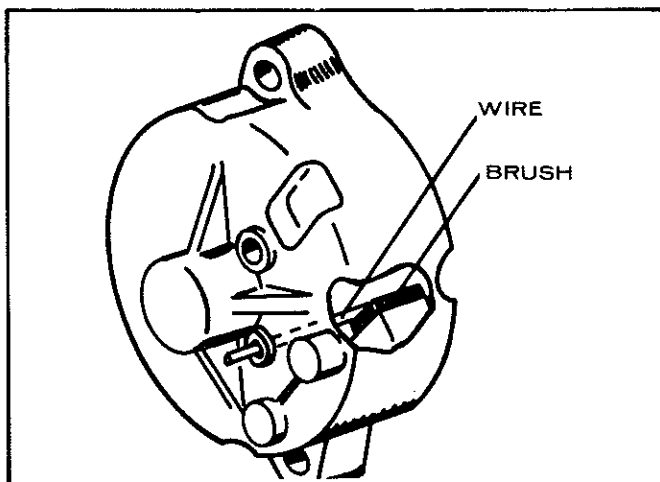

FIGURE 18-42. SECURE BRUSH SPRINGS
8. Insert two brushes and springs in their brush holders and push them against spring tension. Secure the brushes by iron wires as shown in Figure 18-42.